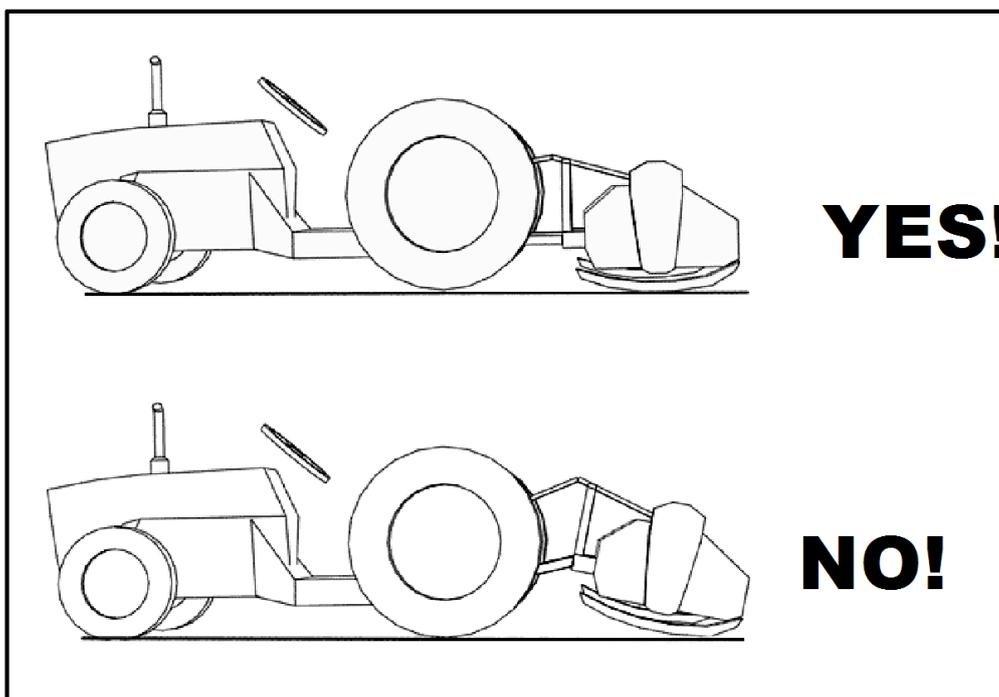

Fig.2
- Lower the mower and adjust it so that it is parallel to the ground. Do this by adjusting the 3rd point drawbar (fig. 2). This will improve the life-span of the machine and the PTO.
If your mower is equipped with two rear wheels, the cutting height adjustment is carried out by adjusting the two supports of each wheel. (fig. 2)